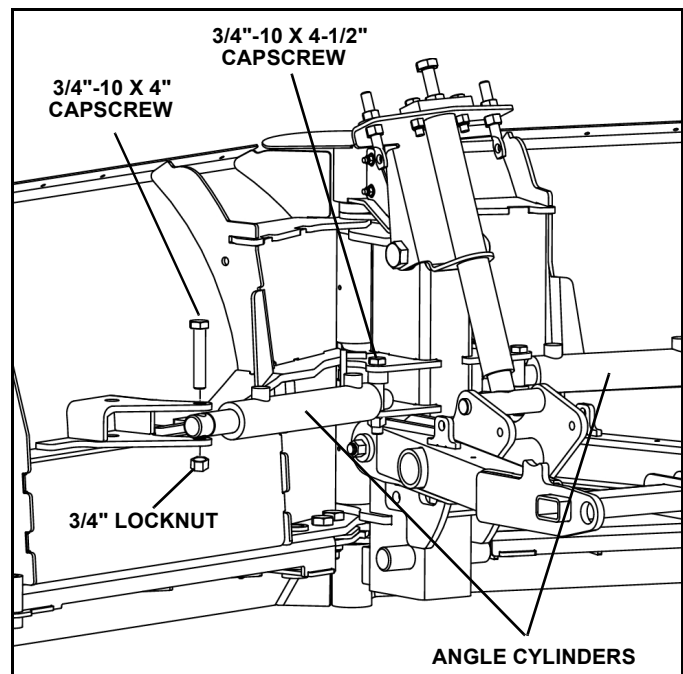

Figure 1-7
12. Attach angle cylinder base to tower with a 3/4" x 4-1/2" capscrew and 3/4" locknut. Attach angle cylinder to blade with a 3/4" x 4" capscrew and 3/4" locknut (See Figure 1-7). Repeat for opposite angle cylinder.